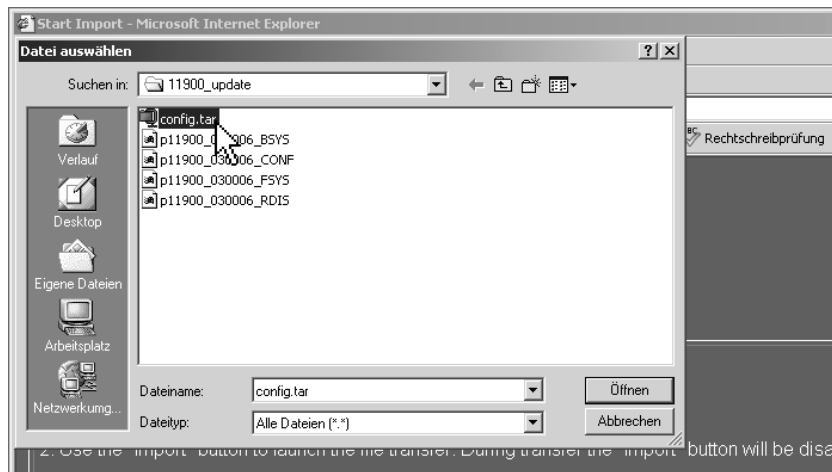

Fig. 8-20: The import file selection dialog box (config.tar.gz)
4. Choose the folder (e. g.: C:\11900\_update) with the user settings data file and click the file **config.tar.gz** (see Fig. 8-20).